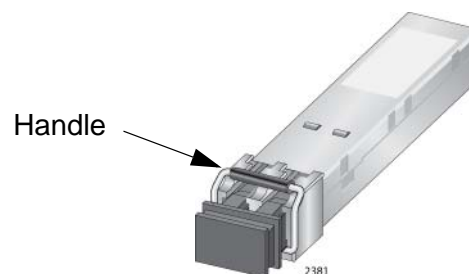

Figure 76. Handle on SFP Transceiver
3. To install the transceiver in an SFP slot on the top row of the line card, orient the transceiver with the handle on top, as shown in Figure 76. To install it into a slot on the bottom row of the line card, orient it with the handle on the bottom.